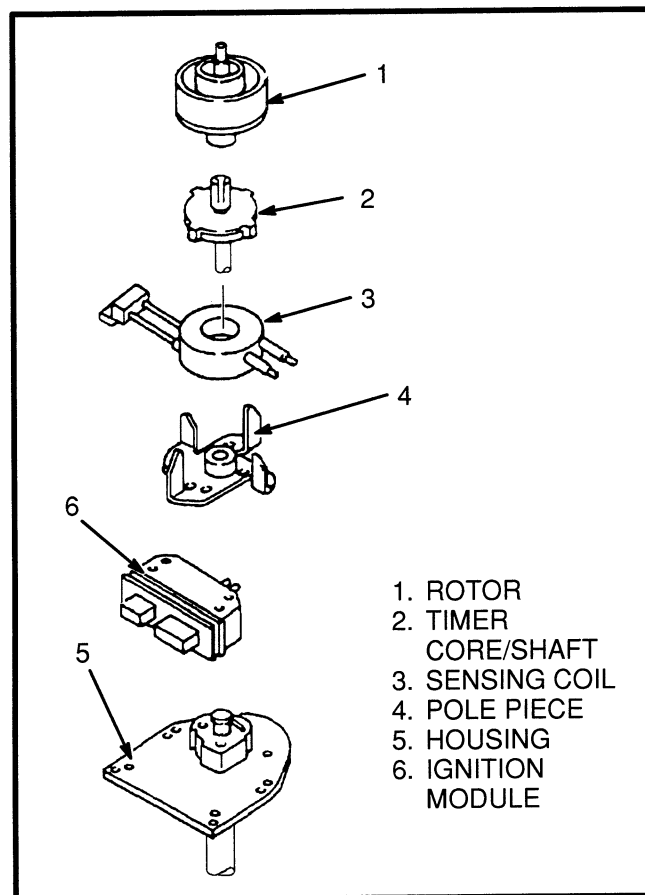

FIGURE 4. DISTRIBUTOR
- **Ignition module.** This component is a small electronic module within the distributor. See FIGURE 4. This ignition module is a signal converter that senses the operation of the distributor. A sensor coil in the distributor senses the rotation of the timer core and the ignition module senses the speed of rotation. A square wave generator in the ignition module converts the pulses from the sensor coil to a square wave signal that is sent to the ECM. If the signals from the ignition module to the ECM indicate that the crankshaft is rotating at less than 400 rpm, the ECM determines that the engine is being cranked by the starter. The ignition module controls the ignition for an engine being started. The Electronic Spark Timing (EST) function from the ECM is deenergized. If the signals from the ignition module to the ECM indicate that the crankshaft is rotating at greater than 400 rpm, the ECM determines that the engine is running and the Electronic Spark Timing (EST) controls the ignition.
Distributor (See FIGURE 4.)
The ignition module is a solid-state electronic device that operates like a fast switch except that it does not have any moving or mechanical parts. See FIGURE 4. Small electrical pulses from the sensing coil of the pulse generator go to the ignition module.